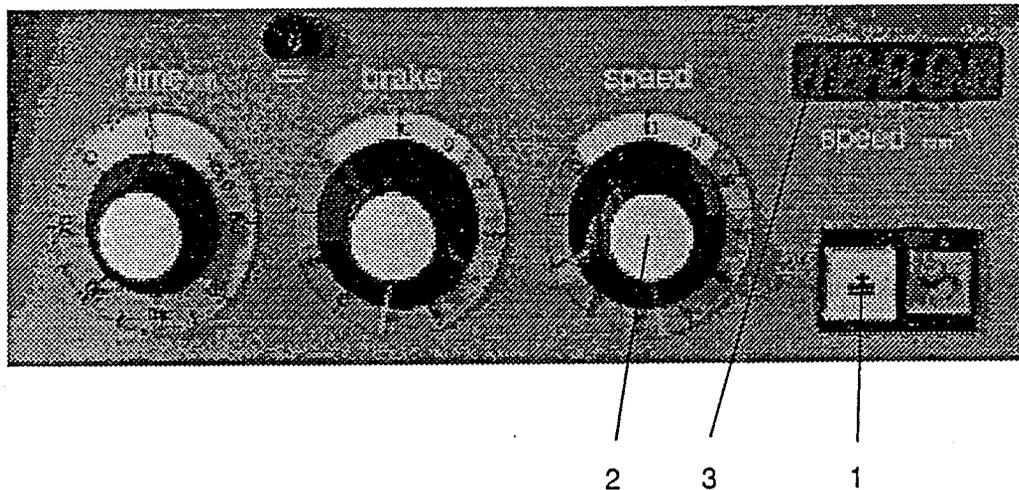

Figure 15
When the rotor starts accelerating, the lid release indication (1) switches off and the lid cannot be opened, (see figure 15).